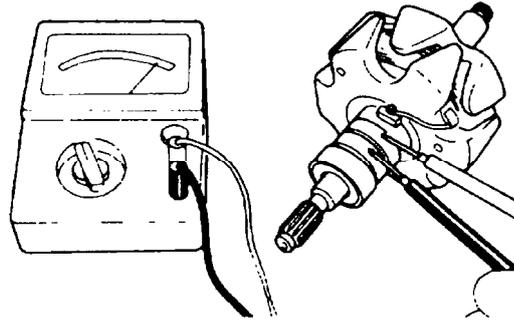

Figure 293 Rotor and Slip Ring Continuity Test
- (4) Using an ohmmeter, check the resistance across the slip rings. If continuity does not exist, replace the rotor assembly (Figure 293).